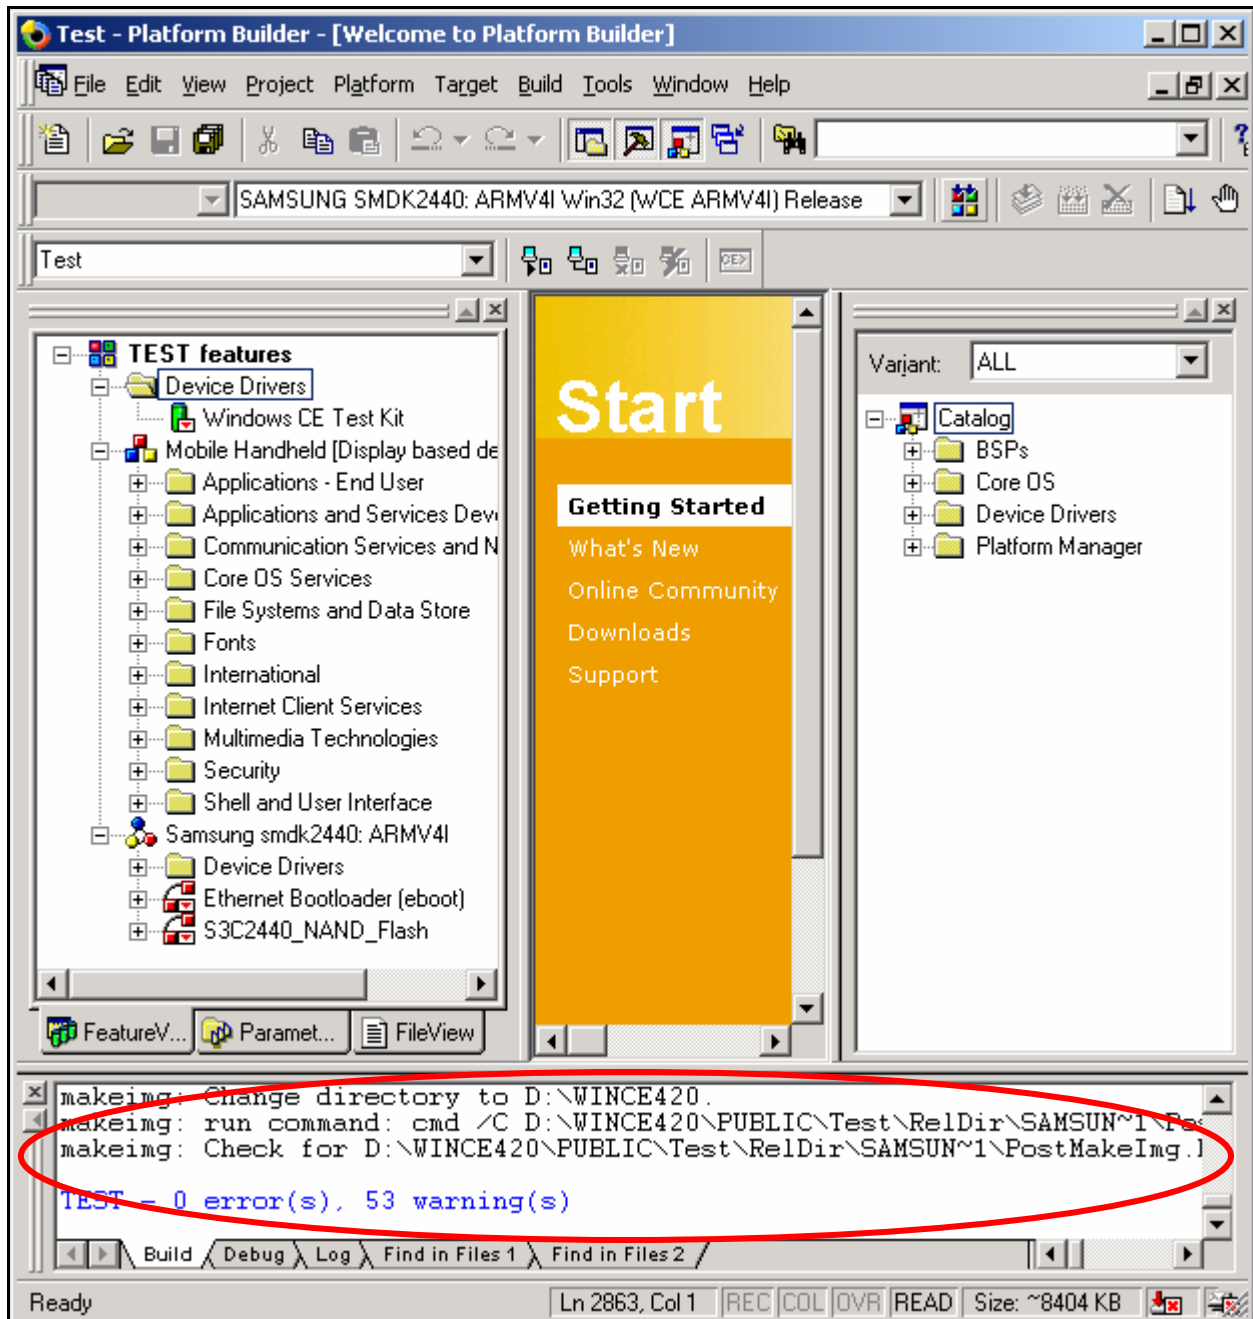

Figure 3-8 After Building OS Image
15. After the completion of build process, the following message will appear on your screen as shown below in the figure 3-8. The EBOOT.nb0 and the OS Image NK.nb0 will be generated in the 'X:\WINCE420\PUBLIC\ [platform name] \RelDir\SAMSUNG_SMDK2440_ARMV4IRelease' directory.